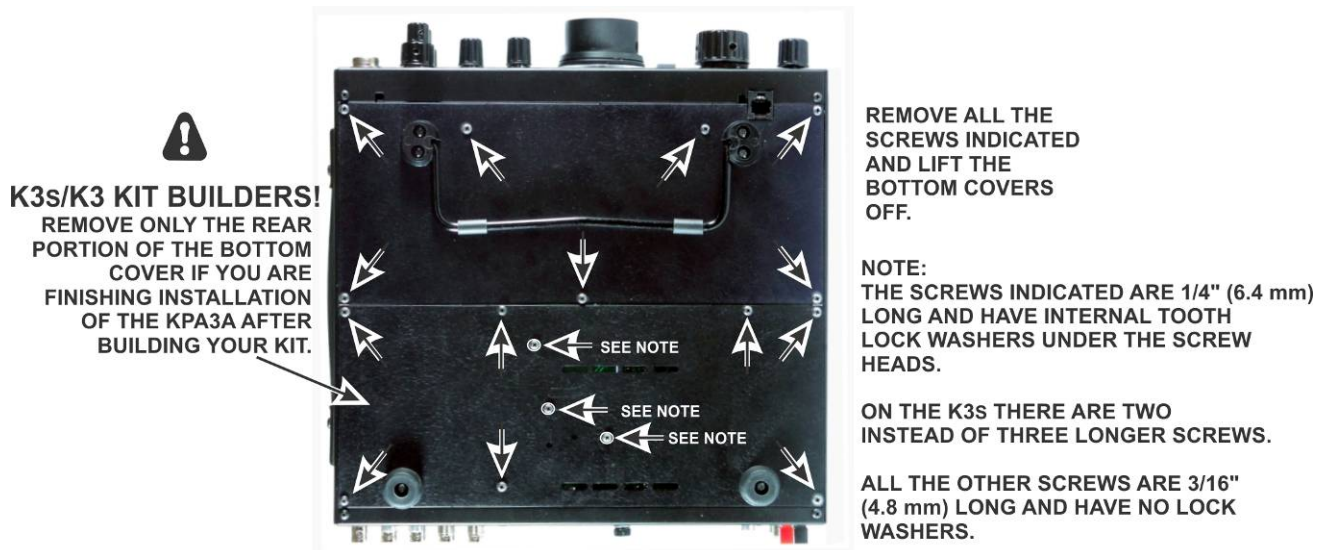

Figure 2. Removing the K3S/K3 Bottom Covers.
□ Turn the K3S/K3 upside down and remove the bottom cover(s) as shown in Figure 2. Note that, if you are finishing the KPA3A installation after assembling your K3S/K3 kit, only the rear portion of the bottom cover needs to be removed.
□ If you are adding the KPA3A after assembling your K3S/K3 from a kit, remove the rear section of the bottom cover (see Figure 2 on page 8) in order to properly support the RF board in the following step.